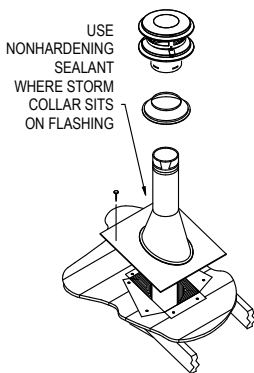

Figure 24
11. Slip the Flashing over the pipe section(s) protruding through the roof. Secure the base to the roof with roofing nails as shown in Figure 24. Insure that the roofing material overlaps the top edge of the Flashing (Refer to Figure 2).